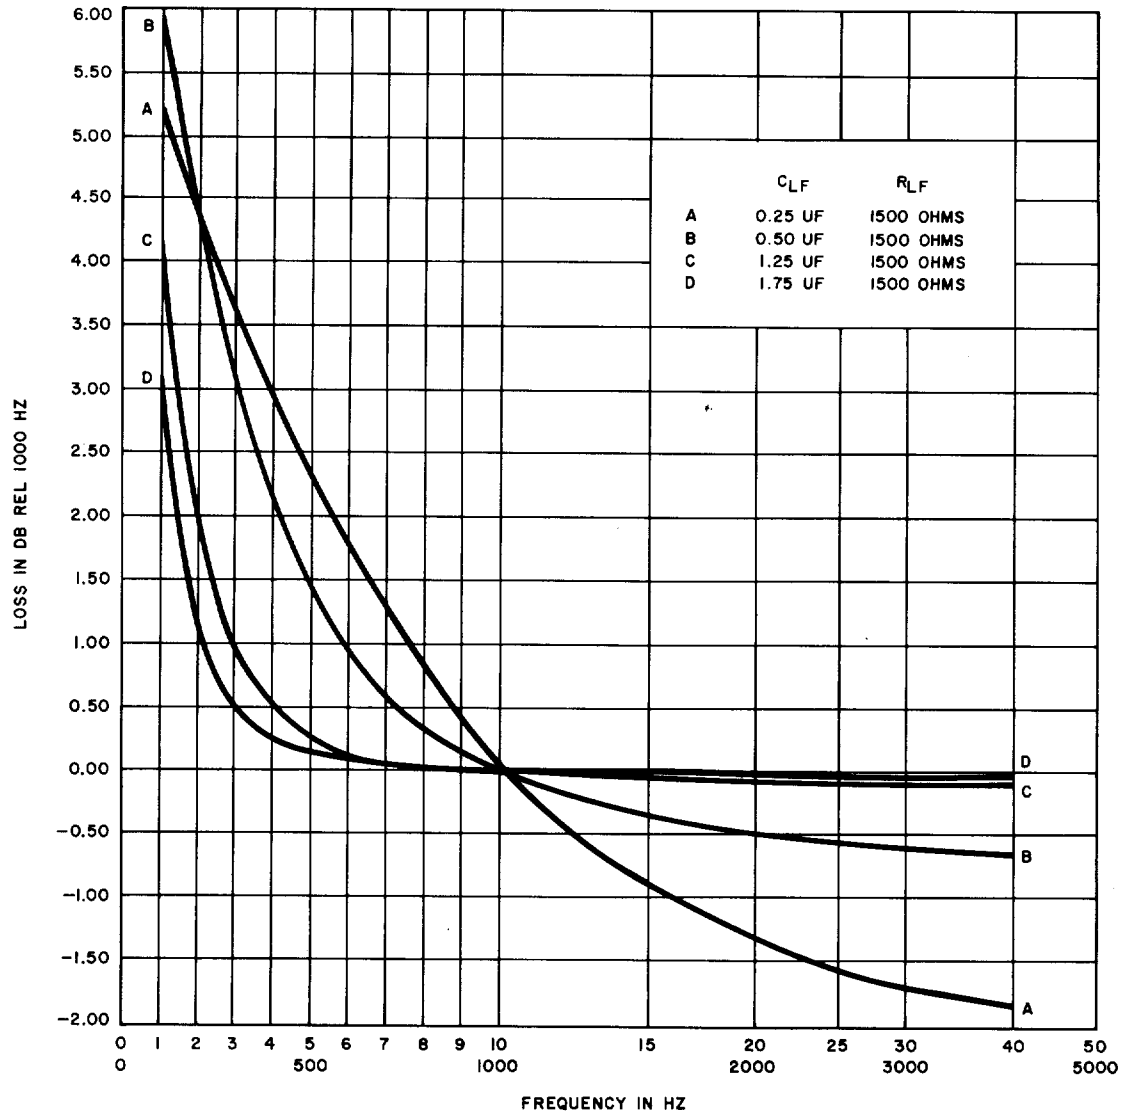

Fig. 5—359D Equalizer, Low-Frequency Section—Loss-Frequency Characteristics—Between 600-Ohm Impedances—Varying C_L for R_L Constant at 1500 Ohms
1.02 This section is reissued to include information on 25-gauge metropolitan area trunk (MAT) cable, to correct Fig. 5, and to include information previously covered in an addendum. Arrows normally used to indicate changes are not used due to the extensive revision.
results of keeping C_{LF} constant at $0.25 \mu F$ and varying R_{LF} with the HF section out of the circuit; Fig. 5 shows the results of keeping R_{LF} constant at 1500 ohms and varying C_{LF} with the HF section out of the circuit.